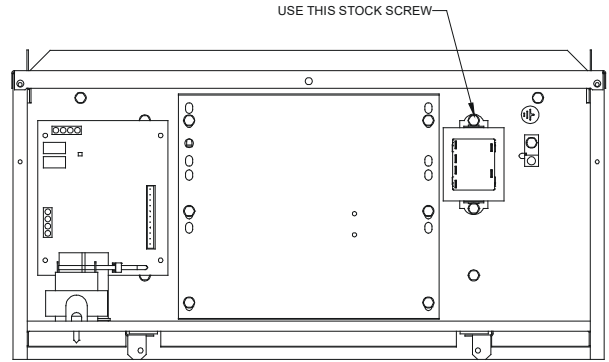

Figure 20
Remove a screw located on the control deck that is showed in Figure 20 and affix the PCB transformer with the removed screw and a screw hole. Then secure another screw hole of PCB transformer using (1) field supplied self drilling screws.